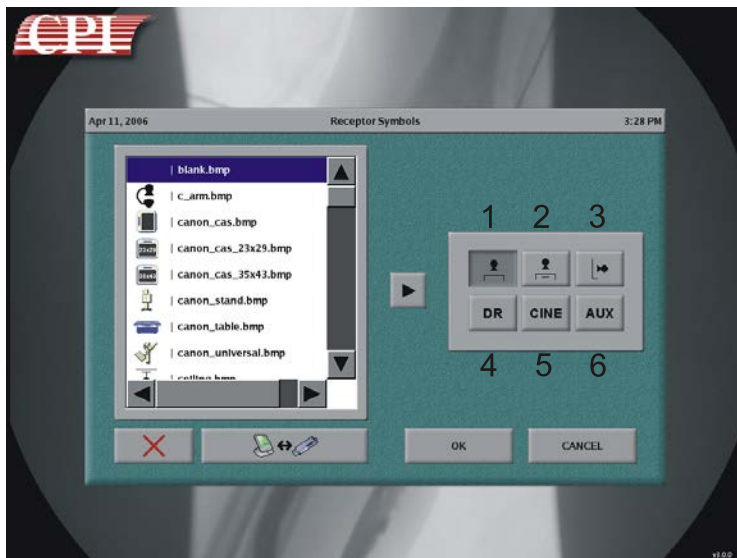

Figure 3-33: Receptor Symbols Window
2. A pop-up window (Figure 3-33) will open showing the image receptor buttons with the currently assigned symbols near the right side of the receptor symbols window, and the library of available receptor symbols near the left side of the window.